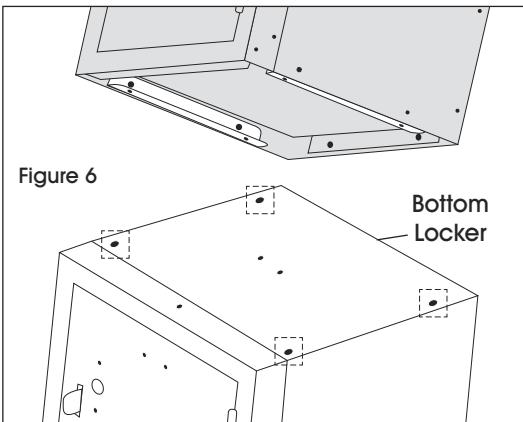

Figure 6
2. Insert Phillips head bolts and washers up through holes in top of bottom locker and through threaded holes in bracket. Tighten fully. (See Figure 6)